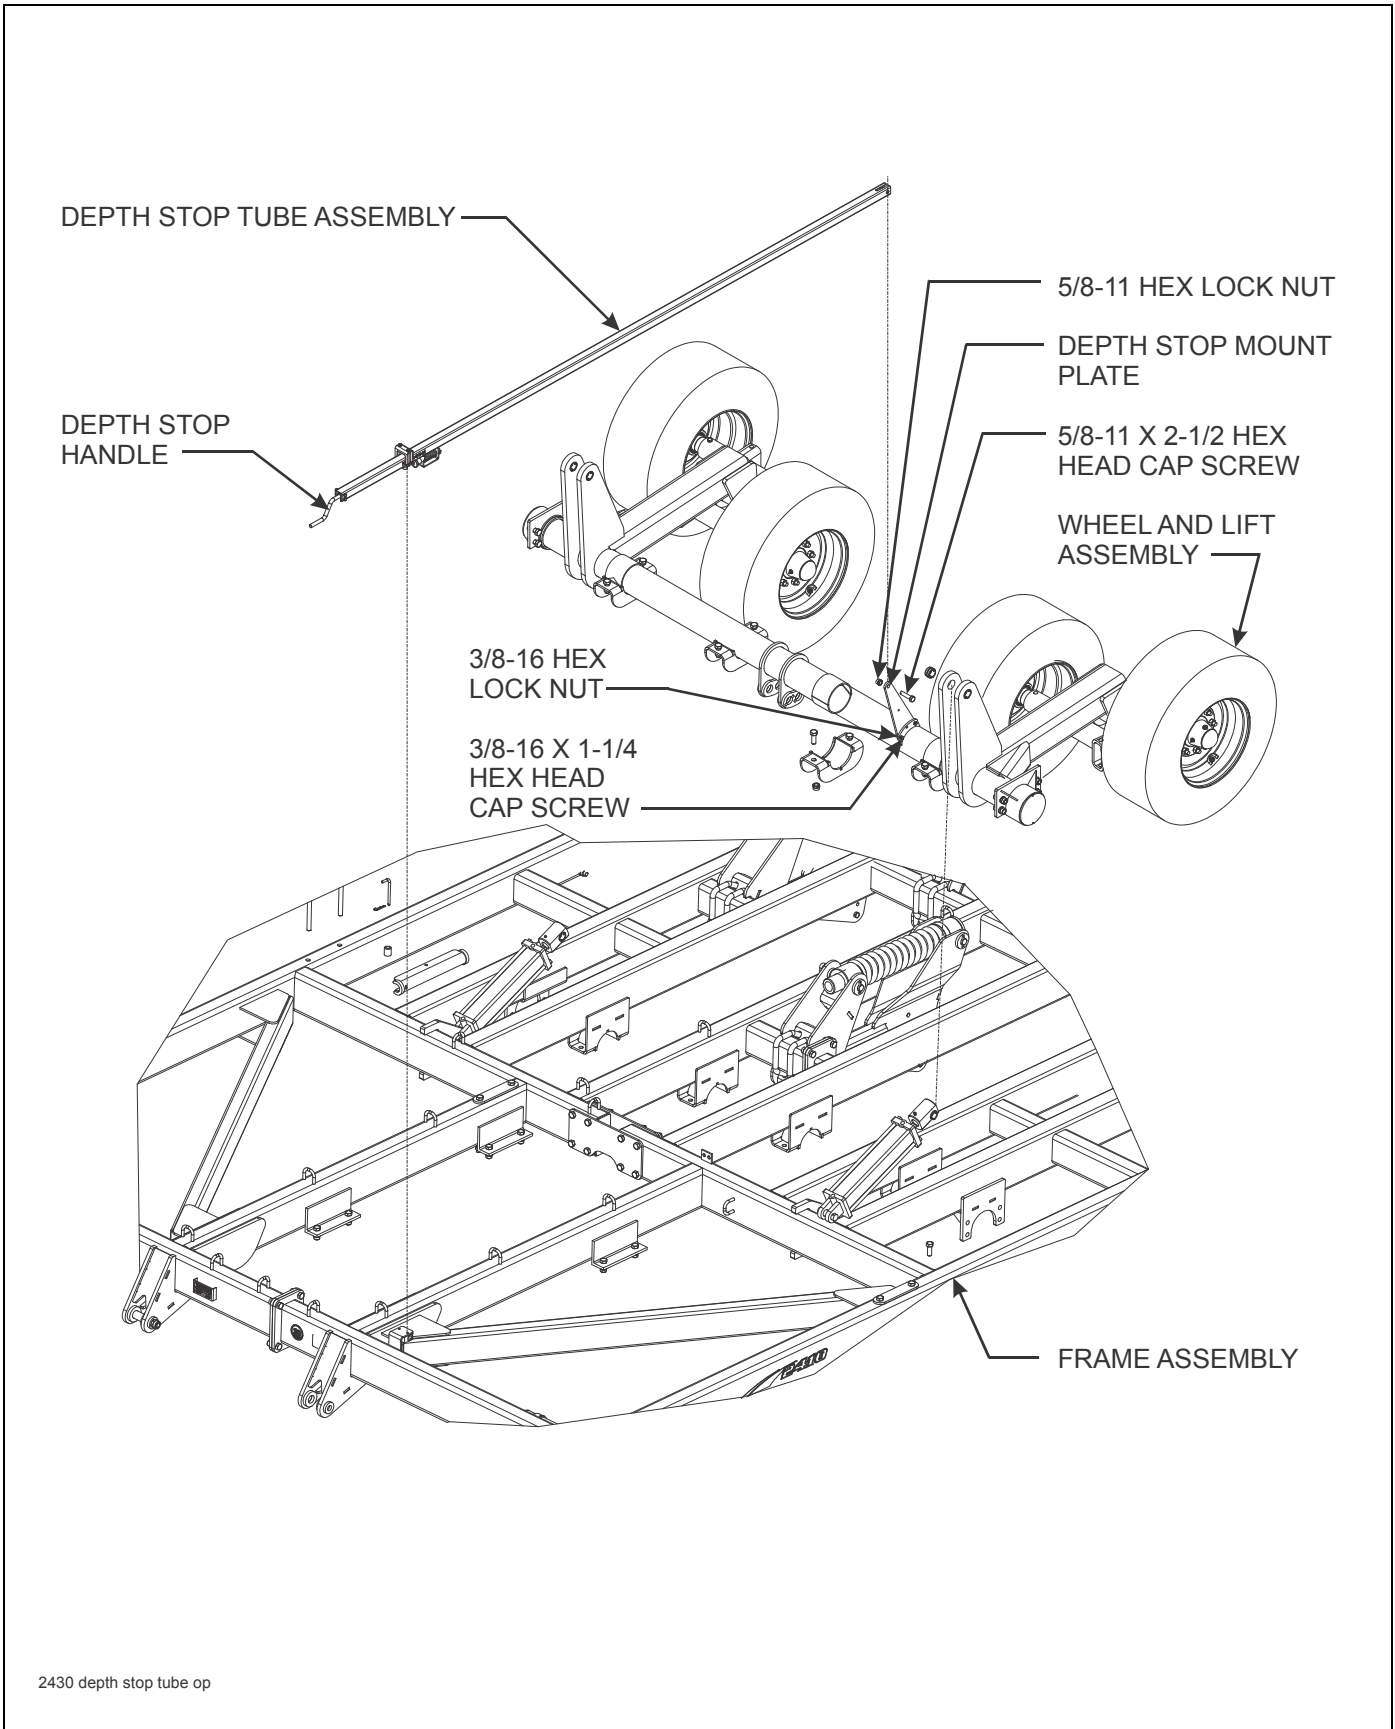

Figure 3-6: Depth Stop Assembly Installation
2. Lay the depth stop tube assembly on top of the center frame. Insert a 5/8-11 x 3 hex head cap screw in the rear hole of the tube assembly from the left side (**See Figure 3-6.**) Install a 5/8-11 hex nut on the screw. Do not over tighten, as the depth stop must pivot on this screw. Insert the screw through the depth stop mounting plate on the center lift and secure with a 5/8-11 hex lock nut.